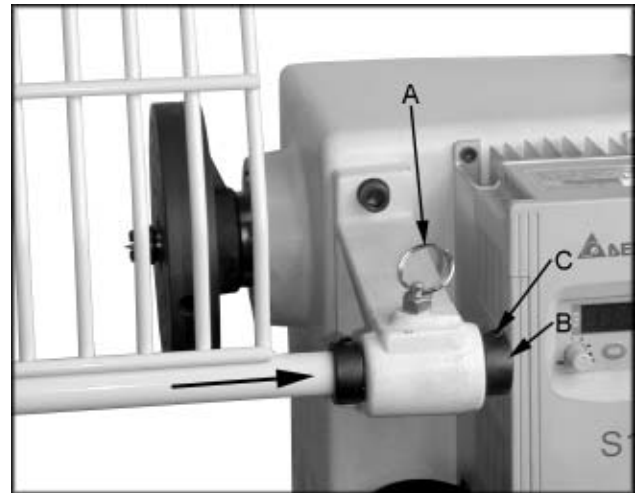

Fig. 5
1. Attach guard to the bracket by inserting the rod and lifting up on the plunger (A, Fig. 5).
3. Tighten the bushings (B, Fig. 5) against the bracket with two set screws (C, Fig. 5).